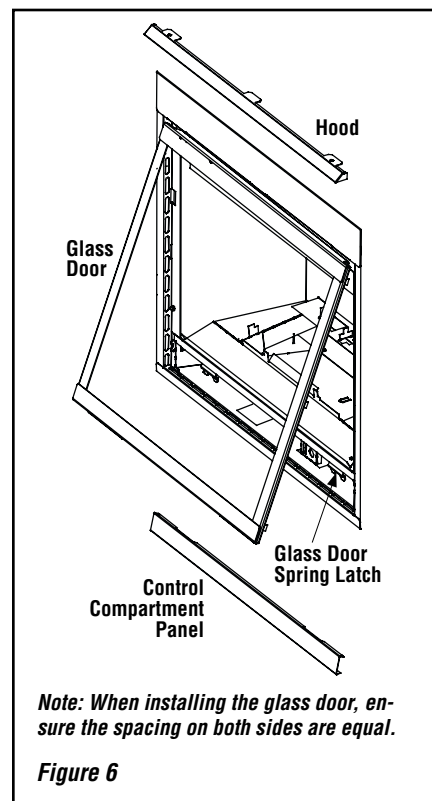

Figure 6
2. Locate the two (2) latches (**Figure 6**) at the top of the control compartment and disengage them from the door frame bottom vee-flange.
2. Position the door in front of the firebox opening with the bottom of the door held away from the fireplace at a 45° angle (**Figure 6**). Hook the top flange of the door frame over the top of the firebox frame.